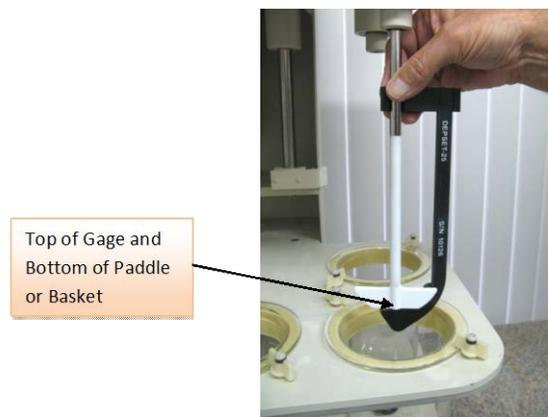

Figure 1
- 4.2.1 The paddle or basket height can be set by placing the 25mm depth gage, (Part Number DEPSET-25) onto the paddle or rotating basket assembly by clamping the support arm onto the drive shaft and making sure the top of the gage is touching the bottom of the paddle blade or rotating basket as shown in Figure 1.